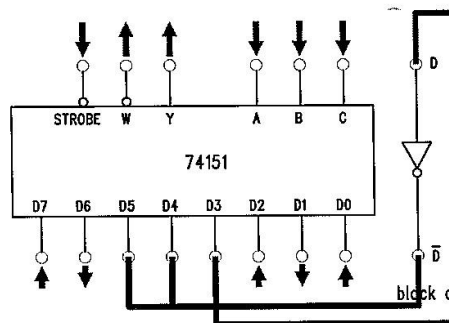

Figure 10.2
**10.2** Refer to **block c** of Lab Module KL34003. Construct the circuit as shown in Figure 10.2 which is described by the function : $F(D, C, B, A) = \sum (0, 2, 4, 5, 7, 8, 10, 11, 15)$
10.3 As the Figure 10.2(b), connect D4 and D5 to  $\bar{D}$ , D3 to D. Connect D0, D2, D7 to SW7 and then switch to HI. Connect D1 and D6 to GND (on block e). Since D, C, B, A has 16 possible variations but the 74151 has only 8 variations, connect inputs D, C, B, and A to SW3, SW2, SW1 and SW0, respectively. Connect STROBE to ground and Y to L0.